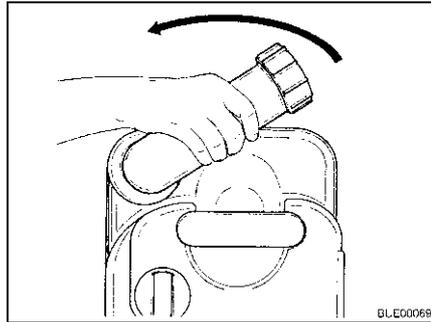

Fig. 220 Turning drainage neck
- Turn the drainage neck upwards (Fig. 220).